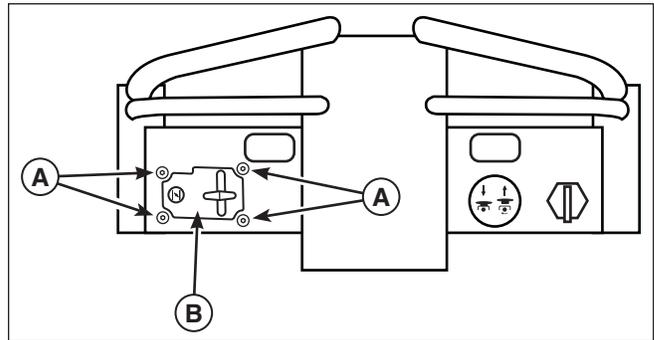

Figure 58. Disconnect the Cable Plate
- Loosen and remove the four (4) allen head screws (**A, Figure 58**) that secure the choke and throttle cable plate (**B**) to the dash panel assembly.
8. Install the choke and throttle cable plate (**B**, **Figure 58**) into the instrument panel and secure using the four (4) allen head screws (**A**).